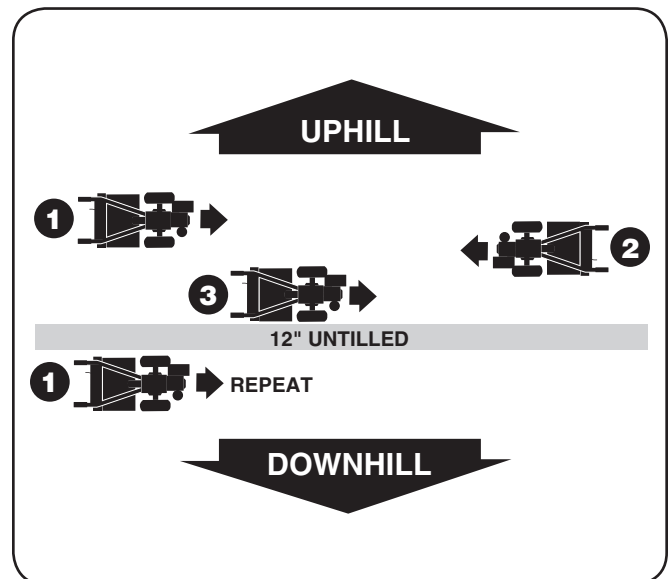

Figure 5-7
1. To create a terrace, start at the top of the slope and work down. Go back and forth across the first row as shown in Figure 5-7.